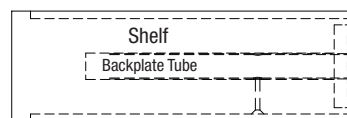

Figure 4
STEP 4: Slide the shelf onto the backplate, with the screw holes facing down, as shown in **Figure 4**.